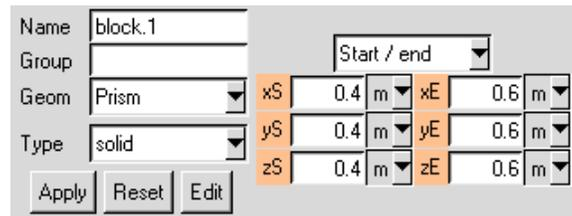
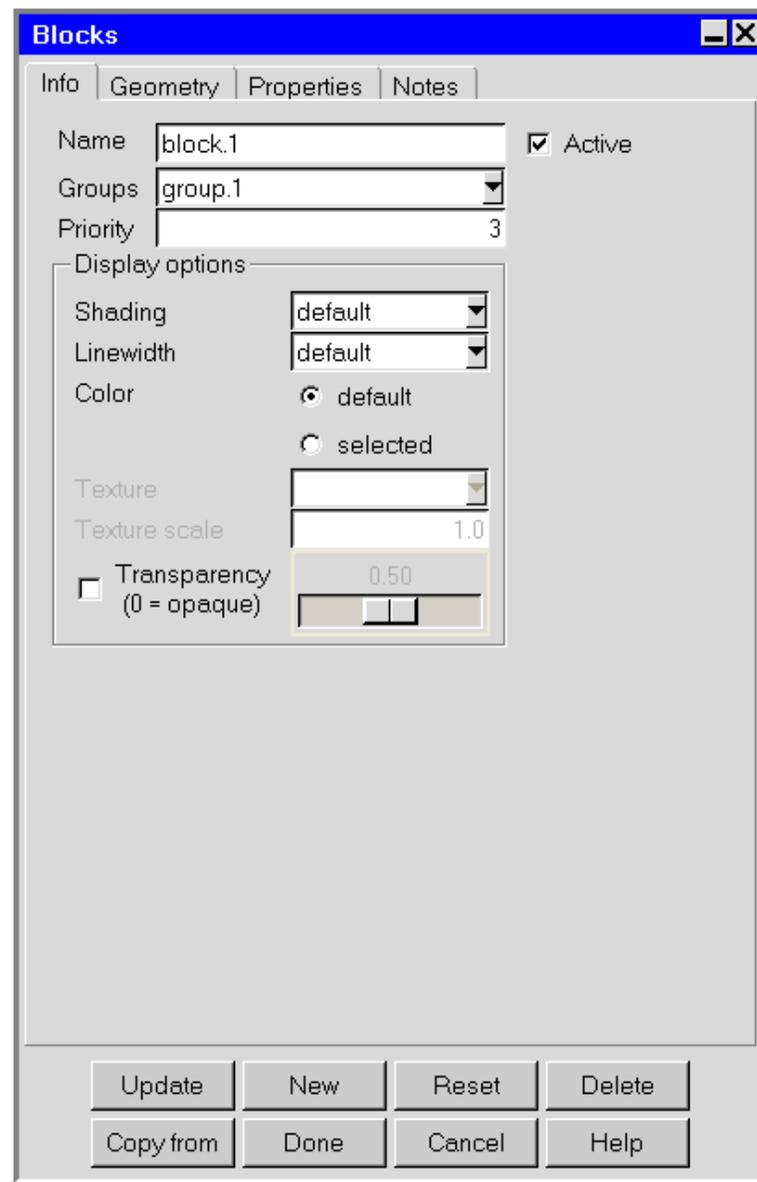
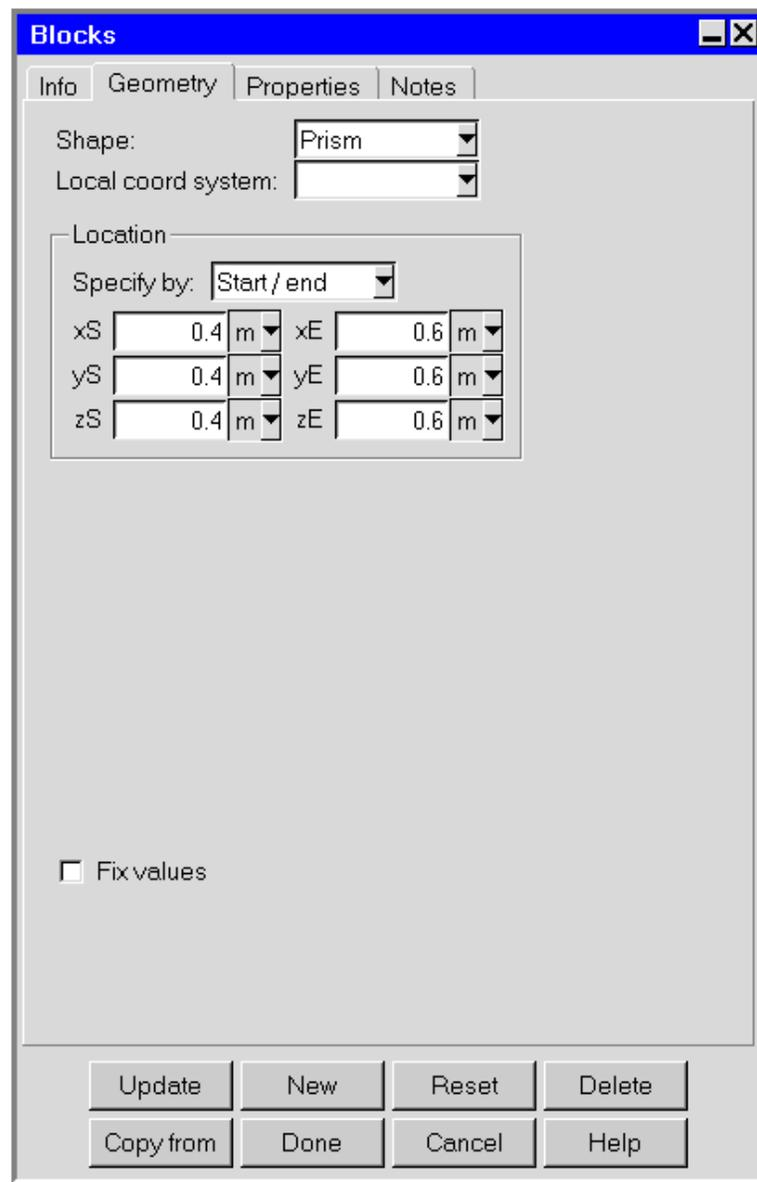

Figure 7.3.1: Example of an Object Edit Window
Figure 7.3.2: Example of an Object Panel (Info Tab)
Figure 7.3.3: Example of an Object Panel (Geometry Tab)
When you click on an object button in the Object creation toolbar, the Edit window in the lower right corner of the screen becomes the object Edit window for the type of object selected. For example, if you click on the  button in the Object creation toolbar, then the Edit window becomes the block Edit window. The object Edit window is similar for all types of objects, and is divided into sections for name and group information and relevant geometric information. Figure 7.3.1 shows an example of an object Edit window specific to blocks (the block Edit window).
The Object panel allows you to specify physical characteristics and properties not available in the object Edit panel. In general, the Object panel is divided into four parts that are similar for all types of objects: description, geometry specification, and physical properties, and object notes. Figures 7.3.2–7.3.5 show examples of an Object panel specific to blocks (the Blocks panel).
The object will become highlighted in the object list and the characteristics of the object will be displayed in the object Edit window (e.g., Figure 7.3.1) and the Object panel (e.g., Figure 7.3.2).
To edit an object, select the object and click on the  button in the Object modification toolbar (Figure 7.1.2). This opens the Object panel (e.g., Figure 7.3.2). The Object panel is specific to the type of object being configured and contains more functionality than the object Edit window. The Object panel allows you to specify physical characteristics and properties not available in the object Edit window.
- To modify the plane of the currently selected object (if relevant), click the Plane text entry field in the object Edit panel (e.g., Figure 7.3.1) using the left mouse button to open a list of available planes (yz, xz, and xy), and select a new plane from the list. The plane of the currently selected object can also be specified in the Object panel (e.g., Figure 7.3.3) using the Plane drop-down list, where you can choose Y-Z, X-Z, or X-Y.
Each **Object** panel (e.g., Figure 7.3.3), and also the **Room** panel (Figure 7.2.3), contains a **Local coord system** drop-down list. To select a local coordinate system for an object (or for the room), open the **Local coord system** list and select a local coordinate system from the list. If the **Local coord system** field is empty, the global coordinate system will be used for the object (or room).